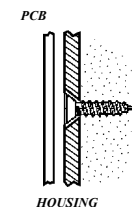

Figure 1: Mounting Screw Position
8. Mount the back cover of the transmitter to the wall using two screws. Use ISO 7050 (ST3.5 x 22) or similar countersunk screws so that the screw head will not touch the PCB – see Figure 1.